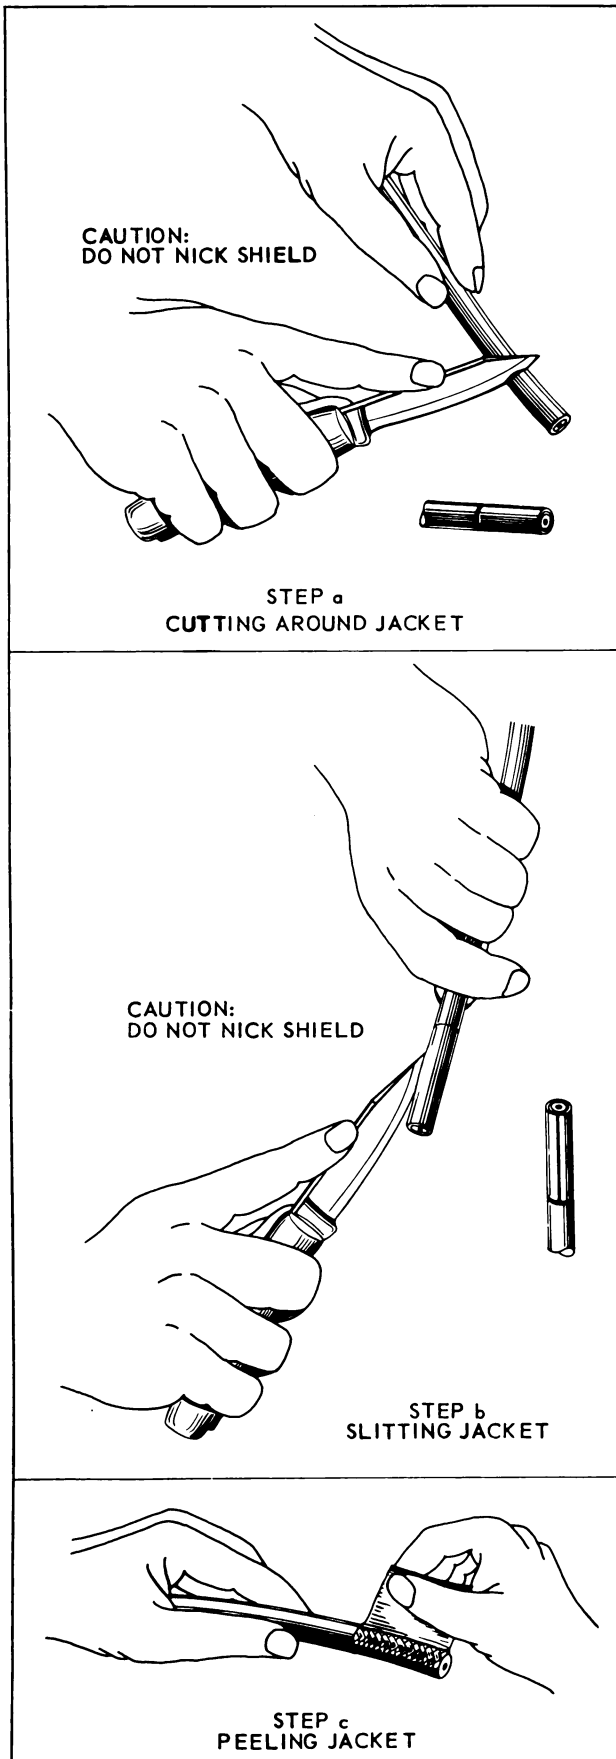

Figure 4-8. Stripping Outer Jacket from Coaxial Cable
4-18. Strip outer jacket from cable by first making a cut carefully around circumference with a sharp knife. See Figure 4-8, step a. Then make a lengthwise slit, step b, and peel jacket, step c. Take care not to nick, cut or damage shield.
a. Remove 1/4 inch of outer jacket exposing shield. See Figure 4-8.
a. Strip 1/2 inch of outer jacket exposing shield. See Figure 4-8.
a. Remove 5/16 inch of outer jacket, exposing shield. See Figure 4-8.